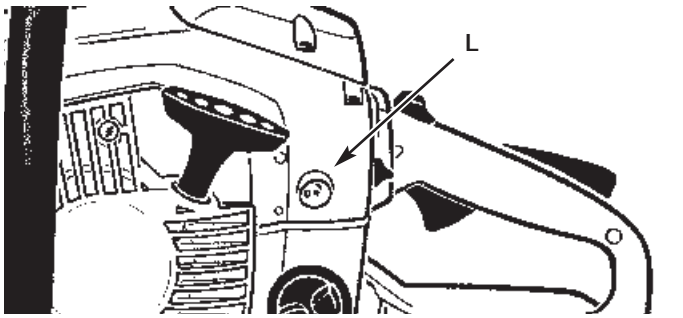

Fig. 8
1. Idle adjustment access (L) - the symbol "T" (for throttle) is below the adjustment hole (Fig. 8).